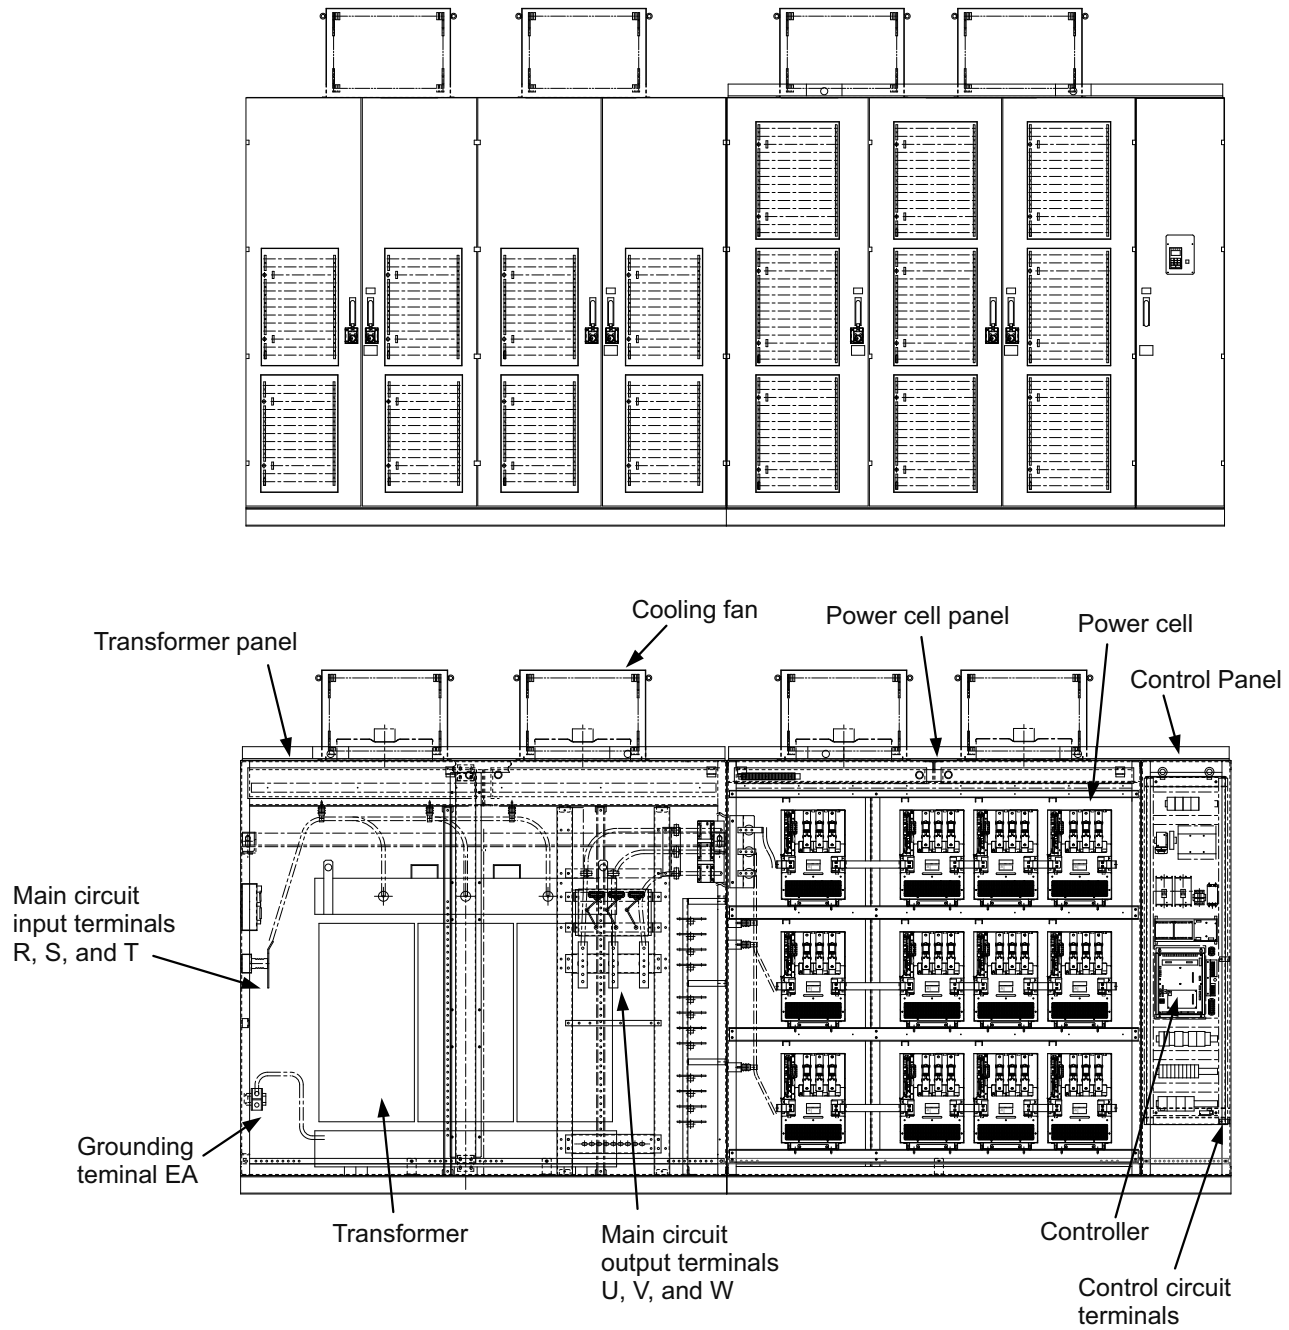

Figure 1.4 MX1S Appearance and Internal Diagram (4.16 kV Class 3000 HP MX1S)
*Figure 1.4* shows typical configurations of MX1S Matrix converters.
As shown in *Figure 1.4*, the MX1S Matrix converter is composed of three panels: